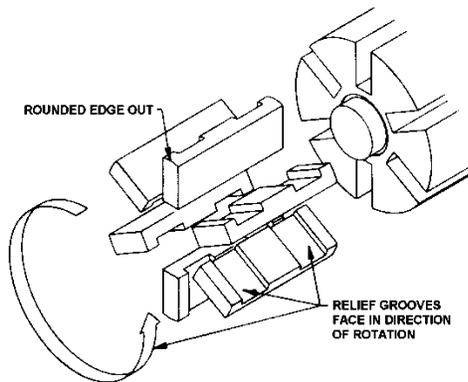

Figure 3 - Vane Installation
3. Turn the shaft by hand until a vane (14) comes to the top (12 o'clock) position of the rotor. Remove the vane.
4. Install a new vane, ensuring that the rounded edge is UP (facing outward) and that the relief grooves are facing TOWARDS the direction of rotation. See Figure 3.
9. Remove the six vanes (14) and three push rods (77) from the rotor assembly. Inspect for wear and damage, and replace as follows:
- a. The push rods MUST be installed before installing the rotor and shaft (13) into the pump cylinder / casing. To do so, hold the rotor and shaft vertical, with the non-driven (shorter end) down. Slide the push rods into the push rod holes of the rotor, then insert the rotor and shaft into the open end of the pump cylinder / casing.
- b. Insert new vanes into the rotor slots with the rounded edges outward, and the vane relief grooves facing TOWARDS the direction of rotation. Refer back to Figure 3. If necessary, move the push rods with a small screwdriver to install the vanes.
10. Install the inboard disc (71), head seal ring / O-ring (72), and sleeve (24) bearing as instructed in steps 2 through 4 above.
11. Install the inboard head and bearing assembly (20) on the pump cylinder / casing with the V-notch down, towards the bottom of the cylinder / casing. Use the head dowel pins for proper alignment.
12. For SMVP Models lubricate the eight inboard head capscrews (21) with a quality grade of anti-seize compound, and install, torquing to 15 lbs ft (20.3Nm).